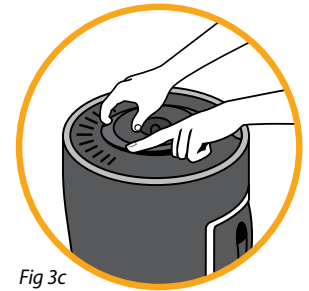

Fig 3c
- With a rocking motion, alternately lift the front and the back of the insert until the insert loosens and can be removed (Fig 3c).